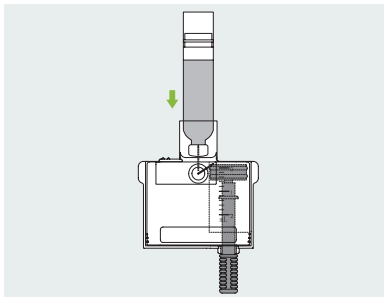

Figure 60
- 2 Use an alcohol wipe to clean the insulin vial and then attach it to the fill adapter as in Figure 60.